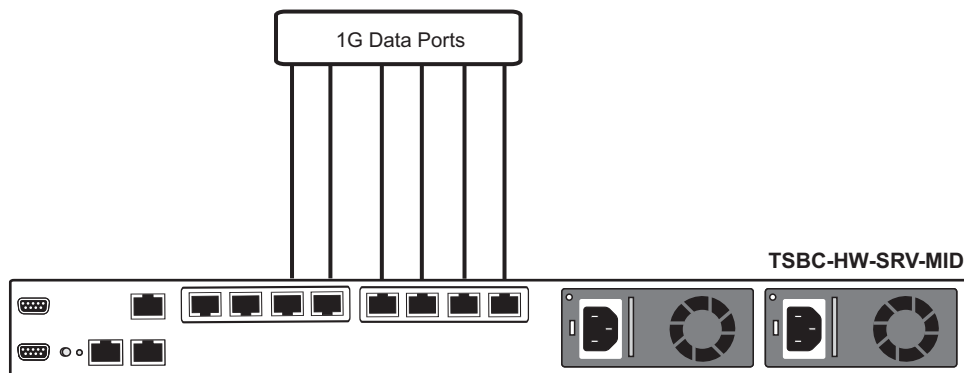

Figure 3.5 TSBC-HW-SRV-MID: Connecting to the Data Network
- To connect the TSBC-HW-SRV-MID to the data network, refer to figure 3.5 on page 20.